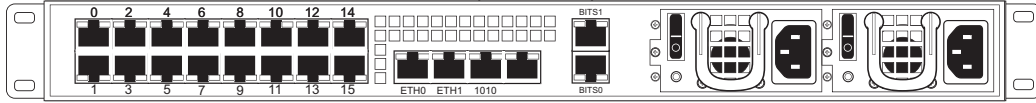

Figure 1.3 7800-TMS Front and Rear Views
- Based upon the configuration of your 7800 series gateway, the number of 7800-TMS media switch(es) may range from zero to two. See figure 1.3 on page 4.
- One 7800-TMS unit (TMG7800-TMS or TMGIP7800-TMS). See figure 1.3 on page 4.